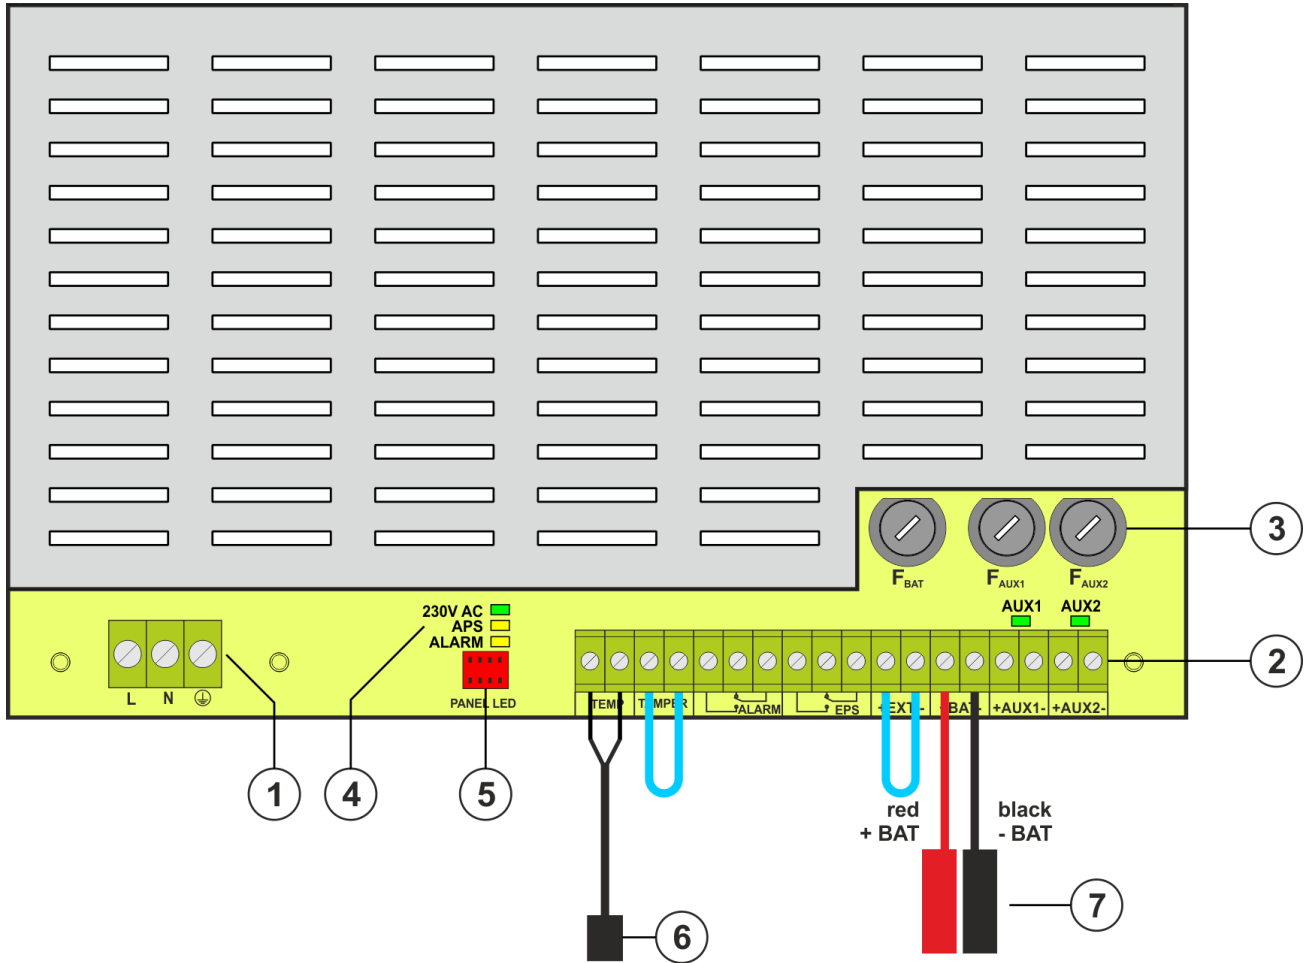

Fig. 2. The view of the power supply module based on the EN54C-2A7.
Table 1. Elements of the PSU (Fig. 2).
2	<p>Terminals:</p> <p>TEMP – input of the battery temperature sensor</p> <p>TAMPER – input of the microswitch tamper Closed input = no indication Open input = alarm</p> <p>ALARM – technical output of collective failure of the PSU - relay type</p> <p>EPS – technical output of AC power failure indication open = AC power failure closed = AC power - O.K.</p> <p>EXTi – external failure input Closed input = no indication Open input = alarm</p> <p>+BAT- – terminals for connecting the battery</p> <p>+AUX1- – AUX1 power output (- AUX=GND)</p> <p>+AUX2- – AUX2 power output (- AUX=GND)</p> <p>CAUTION! In Fig.2 the set of contacts shows a potential-free status of the relay, which corresponds to power supply failure.</p>
①	PSU (tab. 1, Fig. 2)
②	Battery temperature sensor
③	Battery connectors; positive: +BAT = red, negative: - BAT = black
④	A place for installation of additional modules
⑤	TAMPER; microswitch (contacts) of antisabotage protection (NC)
⑥	Fitting battery
⑦	Embossing for cable gland
⑧	Embossings for concealed wires
⑨	Lock
CAUTION! In Fig.2 the set of contacts shows a potential-free status of the relay, which corresponds to power supply failure.